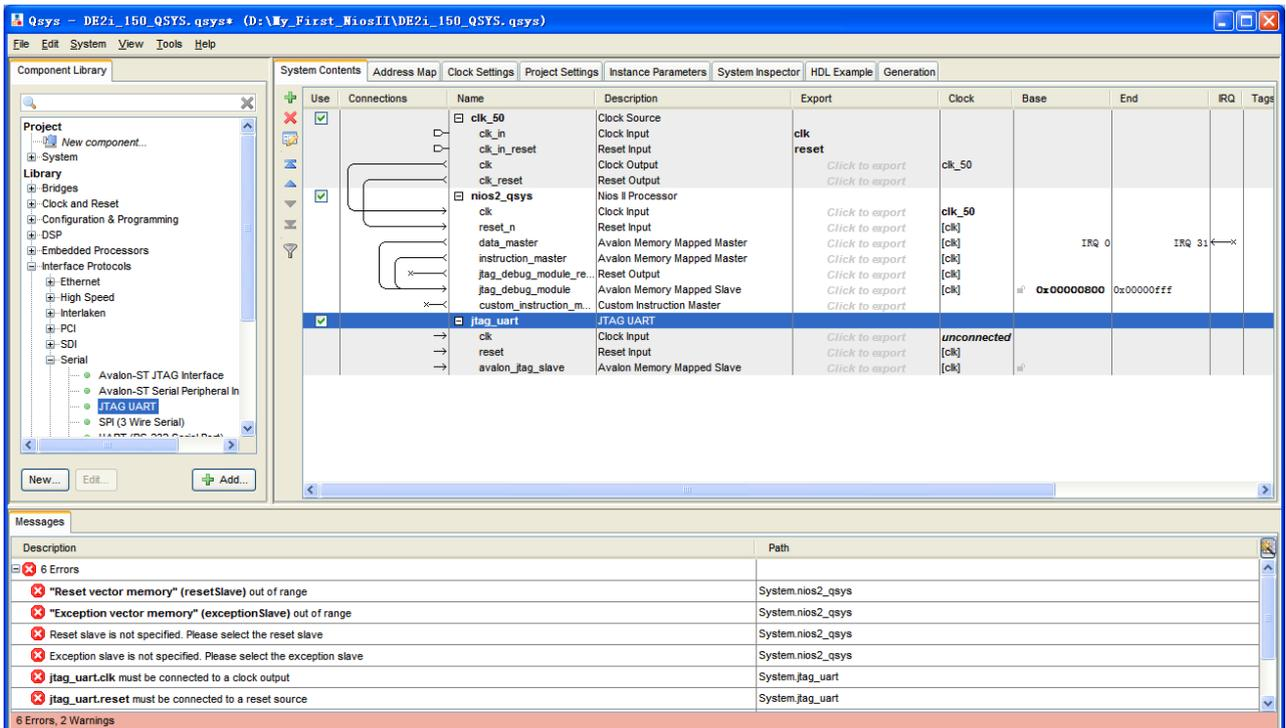

Figure 1-24 Rename JTAG UAR
14. Choose **jtag_uart_0** and rename it to **jtag_uart** as shown in Figure 1-24.